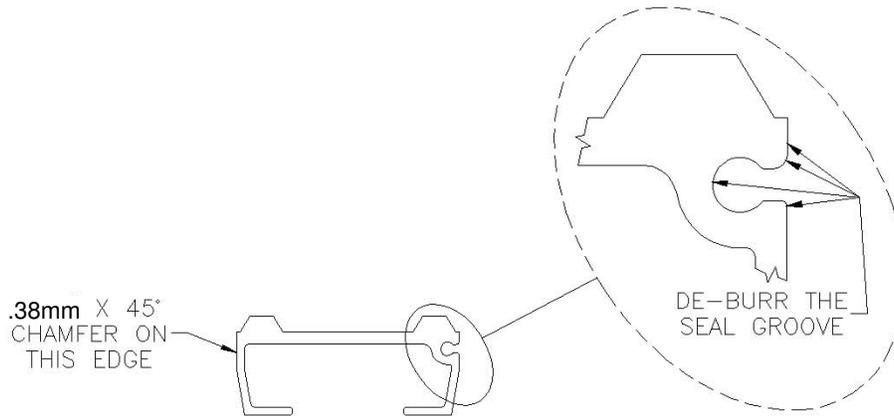

Figure 30
5. Install seals (Figures 30 to 42).
- b. Inspect the ends of the floor slats/planks. De-burr the seal groove. Chamfer the outside edge of the floor slat/planks opposite the seal groove. De-burr and chamfer both ends of the floor slats/planks (Figure 30).